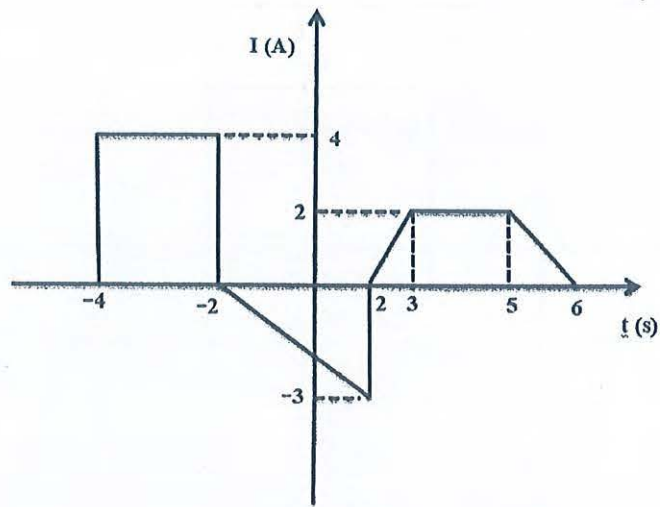

Figure 8
6. Calculate the average and the R.M.S value of the wave shape given in Figure 8. [12.5]